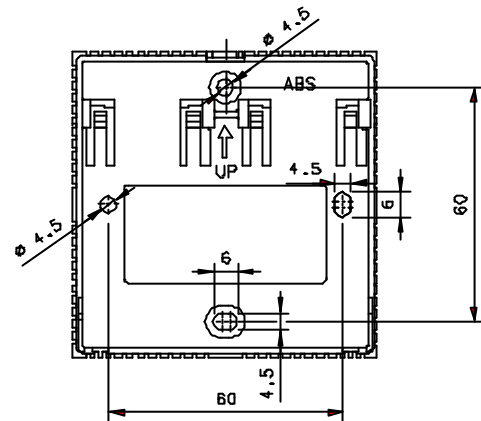

Figure 2: Mounting Dimensions of
4. Mount the base on the wall to cover the electrical output and secure with at least two screws (See Figure 2).